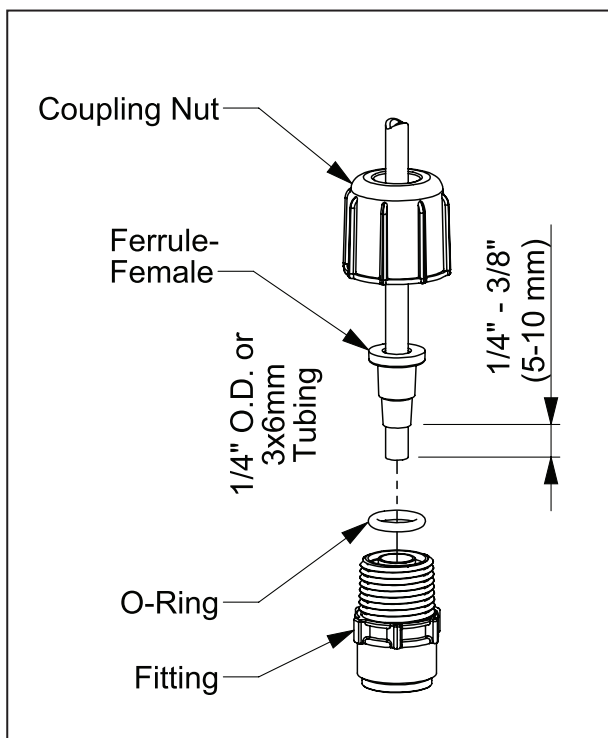

Figure 1
- 2a. For 1/4" OD tubing: Position the Female Ferrule so that 1/4" to 3/8" (5-10 mm) of tubing protrudes from the Female Ferrule. Orient the raised collar of the Ferrule toward the Coupling Nut (reference *Figure 1*).